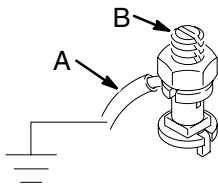

Fig. 1
To ground the agitator, connect one end of the ground wire (A) to the ground connector (B) on the agitator. See Fig.1. Connect the other end of the ground wire to a true earth ground.